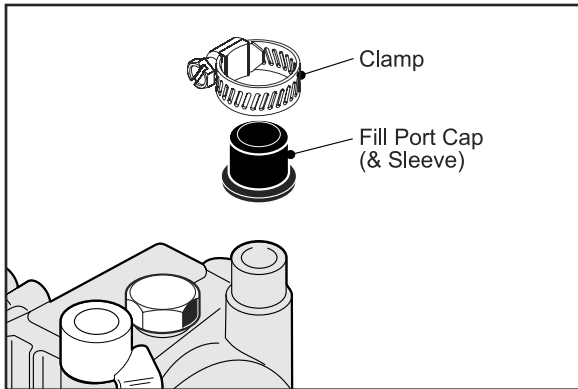

Fig. 50, Oil Port Cap
2. Place,–(Cap, Sleeve & Hose Clamp) over the fill port. (Fig. 50)